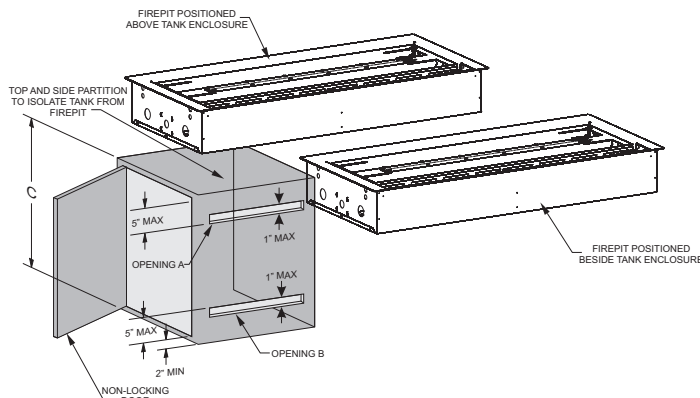

Figure 19
5. If installation includes Propane tank storage under the firepit, use the optional BRB Vent Kit or refer to the Propane tank storage requirements on pages 15 and 16. **See Figure 19.**